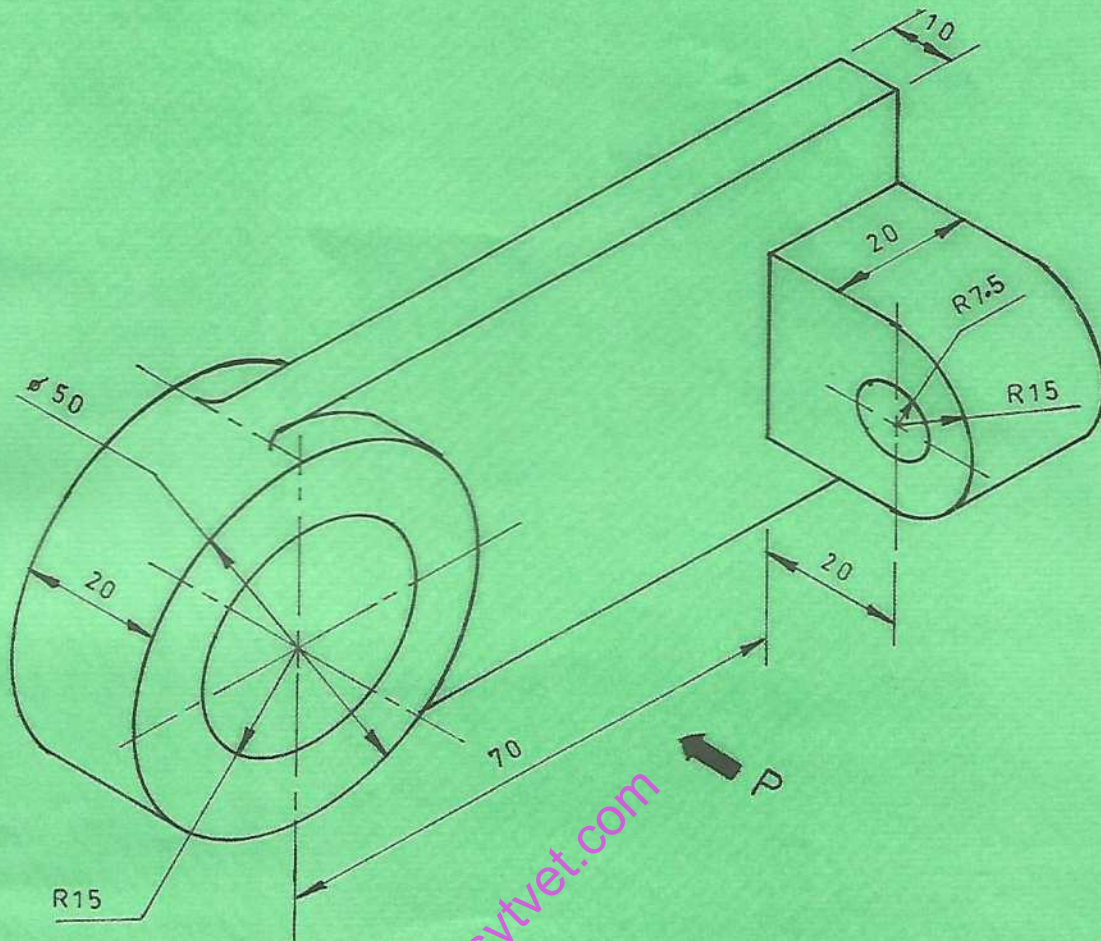

Fig.16
15. Figure 16 shows a machine casting.